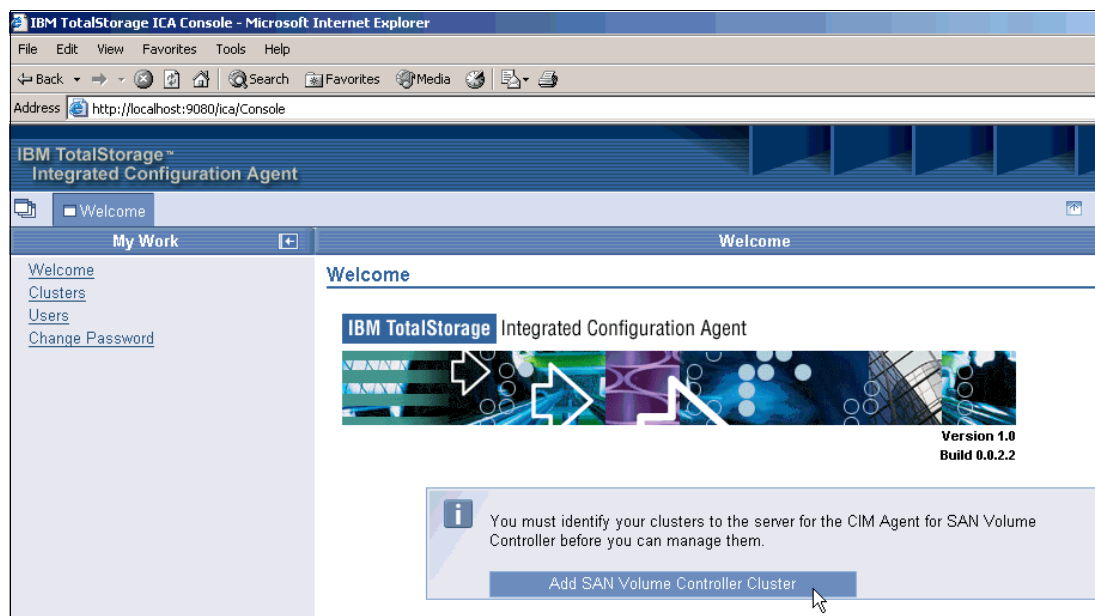

Figure 6-2 Adding the SVC cluster for management
- On the GUI Welcome panel (Figure 6-2), click the **Add SAN Volume Controller Cluster** button in the center of the panel.